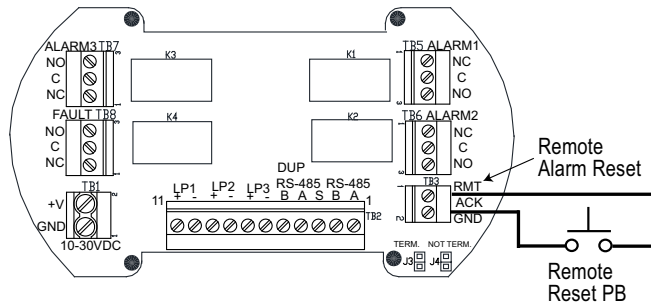

Figure 4-20: Relays/Remote Alarm Reset Connections – Terminal/Relay/MODBUS PCB
Alarm Connection Example – Terminal/Relay/MODBUS PCB and Figure 4-20: Relays/Remote Alarm Reset Connections – Terminal/Relay/MODBUS PCB for details).
- If desired, connect a remote switch to TB3 on the terminal/relay/MODBUS RS-485 PCB. This feature allows you to shut off and reset a sounding remote alarm (refer to Figure 4-20: Relays/Remote Alarm Reset Connections – Terminal/Relay/MODBUS PCB for details).